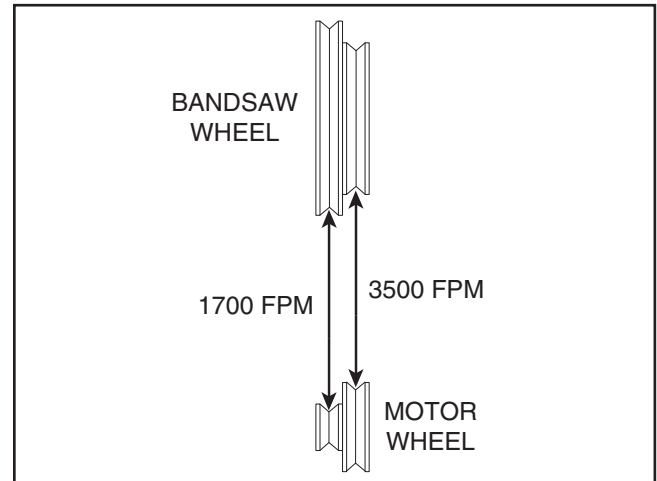

Figure 76. V-belt speeds.
3. Refer to **Figure 76** to locate the correct V-belt position for the desired blade speed and move the V-belt to the indicated pulleys.